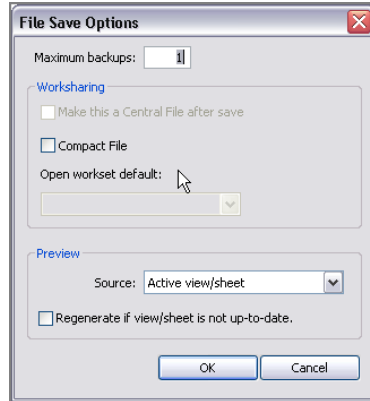

FIGURE 1.50: The options in the File Save Options dialog box let you specify the number of backups and the view for the preview.
3. In the File Save Options dialog is a place at the top where you can specify the number of backups, as shown in Figure 1.50. Set this value to 1.